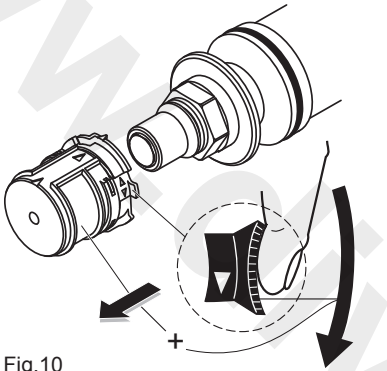

Fig.10
Remove the temperature control handle and the shroud. The temperature adjustment carrier (11) can then be removed as described in figure 10 by sliding the serrated lever clockwise and pulling the carrier off.